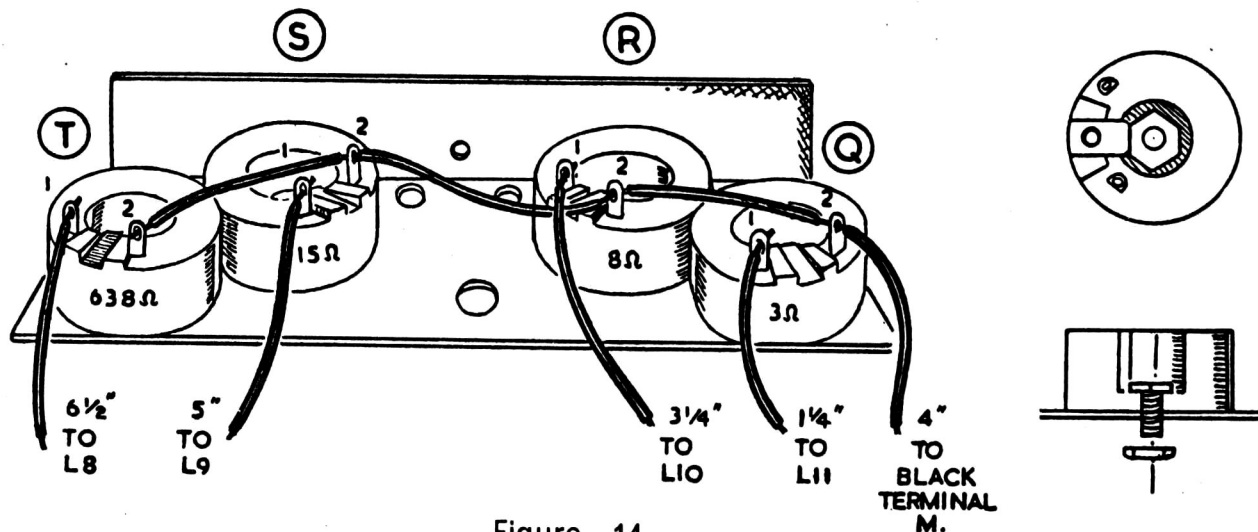

Figure 14
- (✓) Mount the 3Ω 24 watt resistor at location Q as shown in Figure 14 using the hardware supplied.
- (✓) Connect a wire from T2 (S-1) to S2 (NS).
- (✓) Connect a wire from S2 (S-2) to R2 (NS).
- (✓) Connect a wire from R2 (S-2) to Q2 (NS).